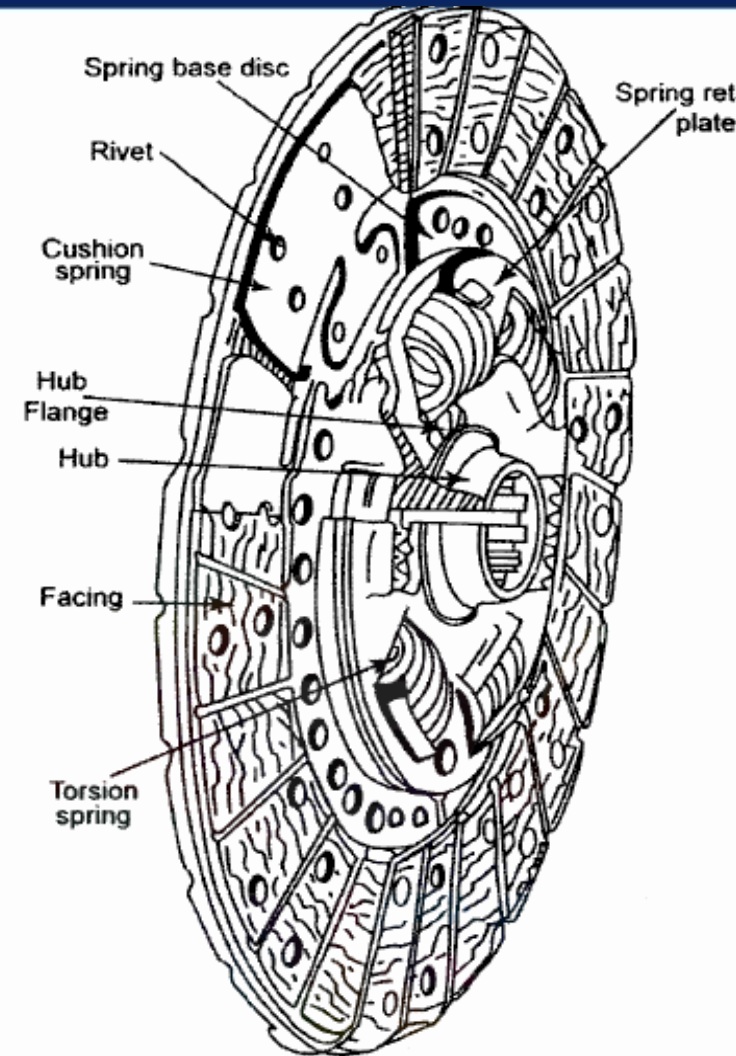

Figure 3.4 Clutch plate
- Figure 3.4 shows the constructional details of the clutch plate.